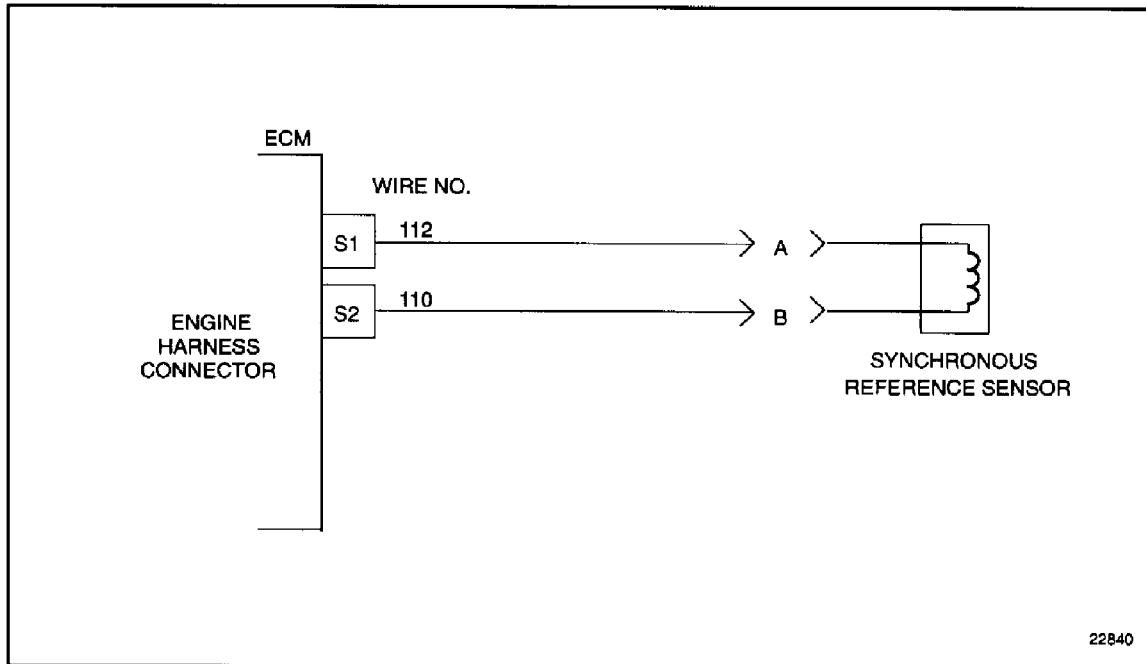

Figure 42-4 Engine Harness Connector to Synchronous Sensor
2. Install a jumper wire between sockets A and B of the SRS harness connector. See Figure 42-4.